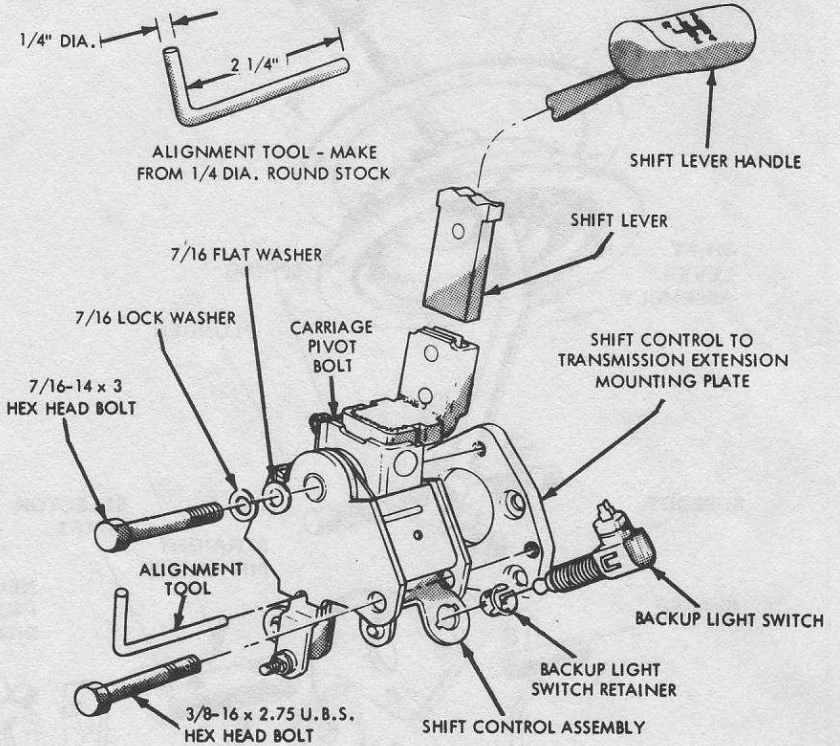

Fig. 6.38 Gear shift control assembly (later 4-speed models) (Secs. 22 and 24)
- 2 With the shift lever in neutral, pull the lower boot up far enough to insert the alignment tool, (see Fig. 6.38) into the shift control assembly. Make sure the tool is completely through and located in the notches on both sides of the shift control housing.